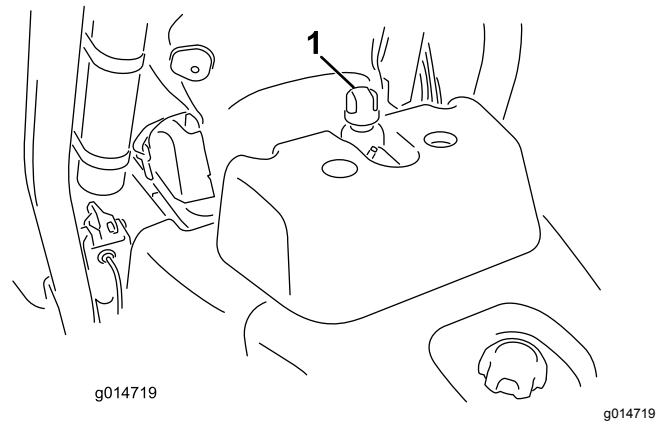

Figure 32
2. Remove the cap from the reservoir (Figure 32).